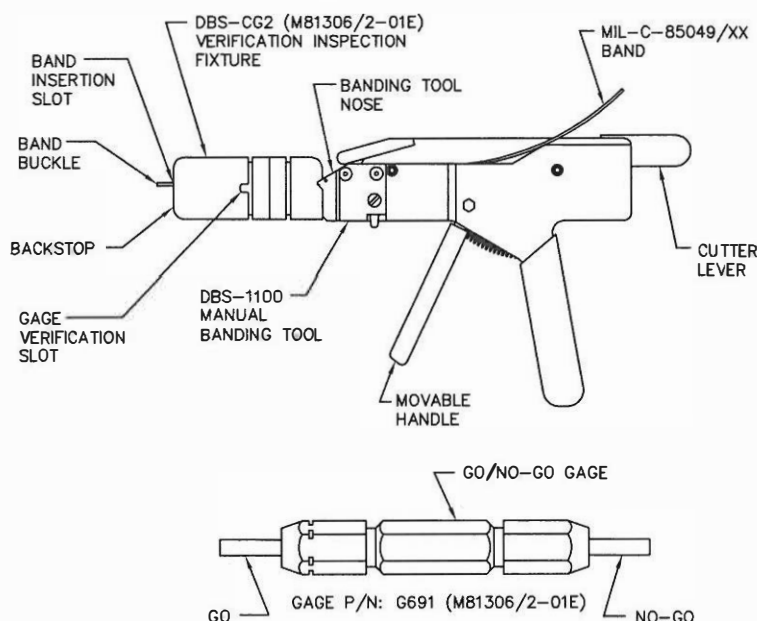

FIGURE 8
- 2.1.1 Place the verification inspection fixture DBS-CG2 (M81306/2-01E) and the manual banding tool so that they may be oriented as shown in Figure 8.